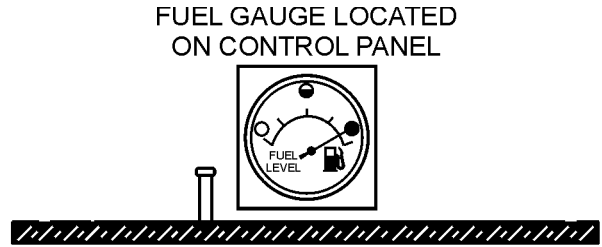

Figure 35. Full Fuel Tank
3. **NEVER** overfill fuel tank — It is important to read the fuel gauge when filling trailer fuel tank. **DO NOT** wait for fuel to rise in filler neck (Figure 35).